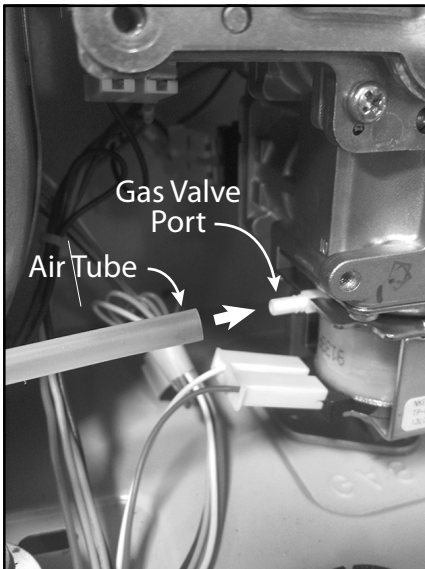

Figure 56.
9.5 Attach the air tube from the bottom of the combustion chamber to the port on the left side of the gas valve. (See Figure 56 and Figure 52, page 49.)